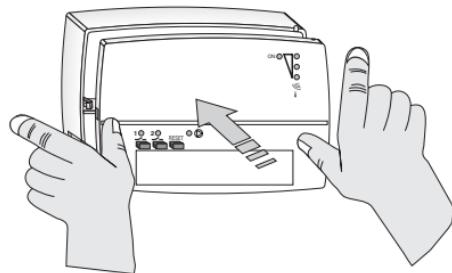
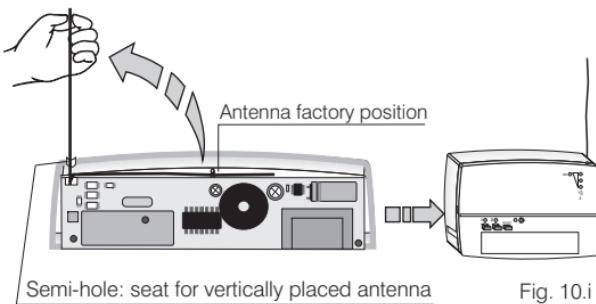

Fig. 9.i
Fig. 10.i
- Push the front on to the base using both hands as shown in figure 9.i, until the catches click and lock the front to the base.
- Pass the wire through the small semi-hole provided for the purpose (fig. 10.I)
- Carefully reclose the receiver (fig. 9.I - fig. 10.I).